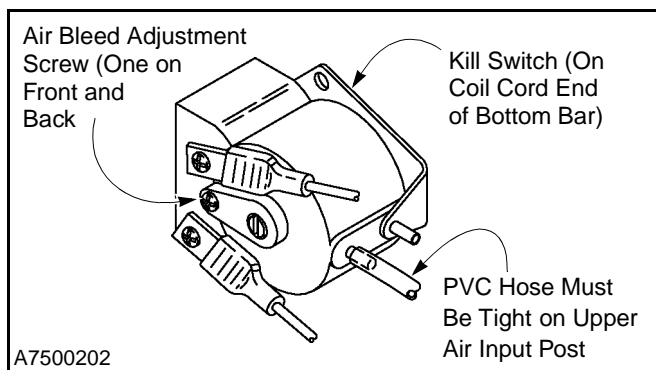

Figure 74
3. Make sure the PVC hose is tight on the upper air input post to prevent air leakage and to ensure the hose will not vibrate off the post. Also make sure the hose is not kinked. (See Figure 74.)